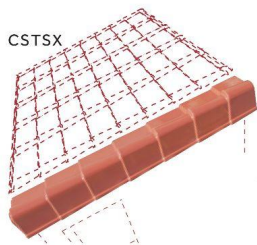

Fig. 1
- position the flashing above the lateral wave of the sheet and align it with its pitch (see Fig. 1);